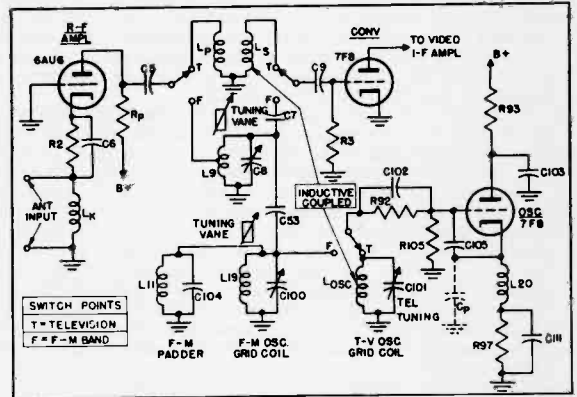

Fig. 2. Television and FM R-F Amplifier, Converter and Oscillator
1. R-F AMPLIFIER, CONVERTER AND OSCILLATOR (SEE FIGURES 2 AND 3)—The television and FM r-f amplifier makes use of a Type 6AU6 tube connected as a triode grounded-grid amplifier. The antenna is connected into the cathode circuit so as to provide a substantially constant input impedance of 300 ohms to the antenna at all frequencies. With a 300-ohm antenna and transmission line system, this coupling arrangement permits optimum transfer to signal from antenna to r-f amplifier for all 13 channels and also prevents reflections from being set up on the transmission line. R2 is the normal bias resistor. A choke, L1, is placed in series with this cathode resistor to prevent the input impedance from being lowered by the shunting effect of the total stray capacity to ground of the cathode of the tube. The choke value is changed for different channels.